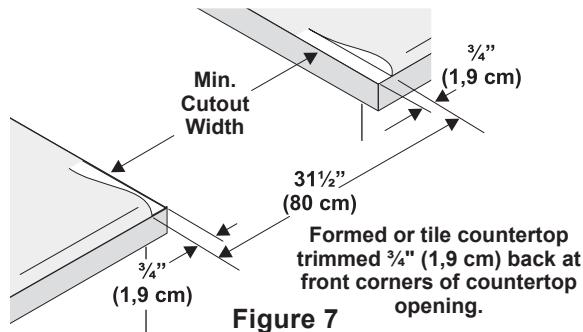

Figure 7
- **Formed front-edged countertops** must have molded edge shaved flat 3/4" (1,9 cm) from each front corner of opening (Figure 7).
- **Tile countertops** may need trim cut back $3/4"$ (1,9 cm) from each front corner and/or rounded edge flattened (Figure 7).